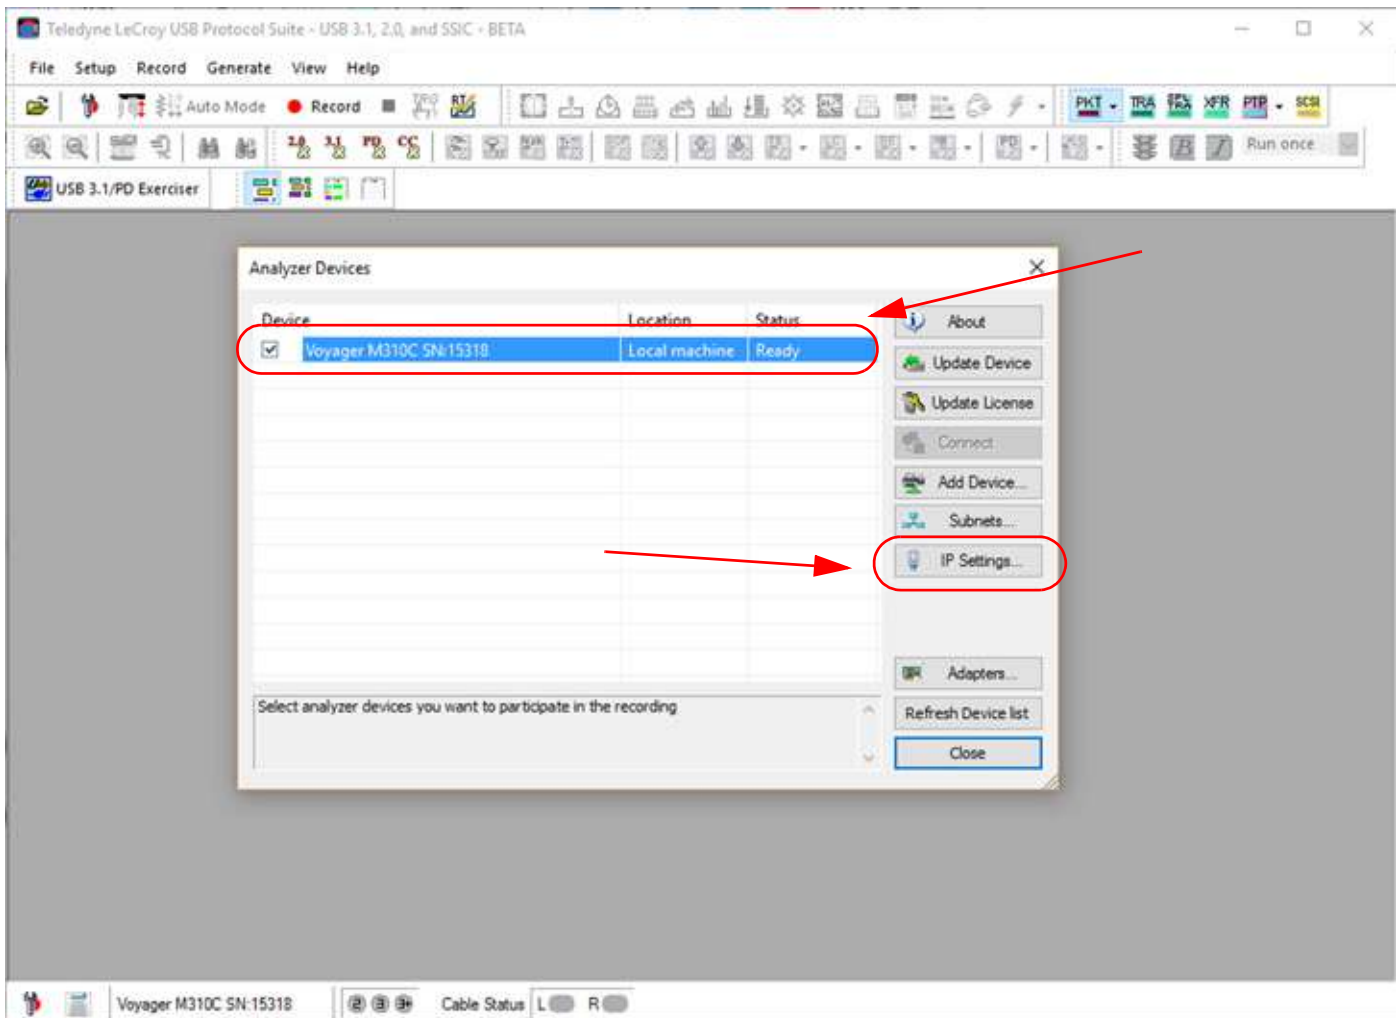

Figure 3.27: All Connected Devices: Analyzer Selected
4. Select All Connected Devices and the following window pops up, showing you the connected USB analyzer. In this case we have a Voyager M310C Ready to Connect. See Figure 3.27.